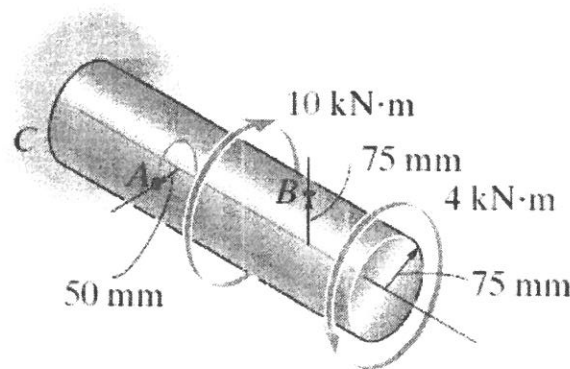

Fig. 1
1. As shown in Fig. 1, the solid shaft is fixed to the support at  $C$  and subjected to the torsional loadings shown.